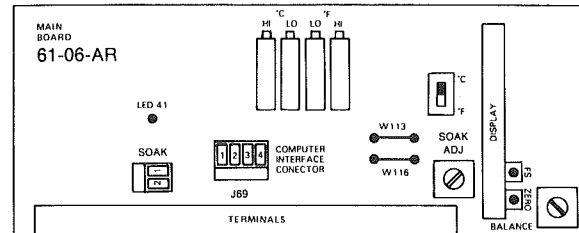
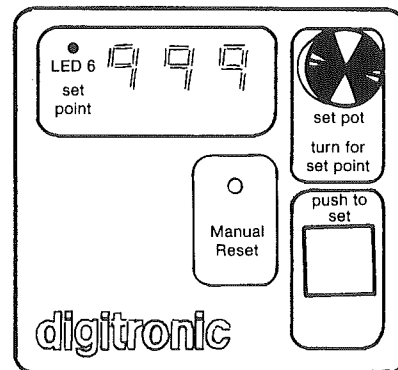

Figure 1A
Figure 1B
2. If the oven temperature is below the setpoint on the display, turn the trim pot marked manual reset located on the front of the control (figure 1B) clockwise. If the oven temperature is above the setpoint, turn reset pot counter clockwise. 1/16 turn of the pot is equal to approximately 1°C (2°F). Wait 5 minutes before making another adjustment. Continue until both read the same.
5. Set reset and soak adjust pots to mid range. See Figure 1A & 1B.
7. Connect digital voltmeter (DVM) from COM (-) J69 Plug Pin #4 to W113 (+). Set millivolt source to 0°C (0.00 mv). Adjust °C lo pot for 0.00V +/- .005V on DVM. Adjust zero pot for 000 on display when LED (6) indicator on the control is off.
8. Set millivolt source to 540°C (29.64 mv). Adjust °C hi for 2.700V +/- .005V on DVM. Adjust F.S. pot for 540 on display when LED (6) indicator is off.
10. Set millivolt source to 260°C (14.11 mv), display should read 260 +/- 1 with LED (6) indicator is off.
12. Set millivolt source to 32°F (0.00 mv). Adjust °F lo pot for 32 on the display when LED (6) indicator is off.
13. Set millivolt source to 990°F (29.20 mv). Adjust °F hi pot for 990 on the display when LED (6) indicator is off.
15. Set millivolt source to 500°F (14.11 mv), display should read 500 +/- 1 when LED (6) indicator is off.
16. Connect DVM from COM (-) J69 Plug Pin #4 to W116 (+). Adjust set pot (see figure 1B) for 2.500V on DVM. With set point switch depressed, adjust the balance pot for 500 on display.
17. Adjust the reset pot until the load is cycling 50 percent. The cycle time should be about 1 second +/- ¼ second. LED (41) should cycle with the load.